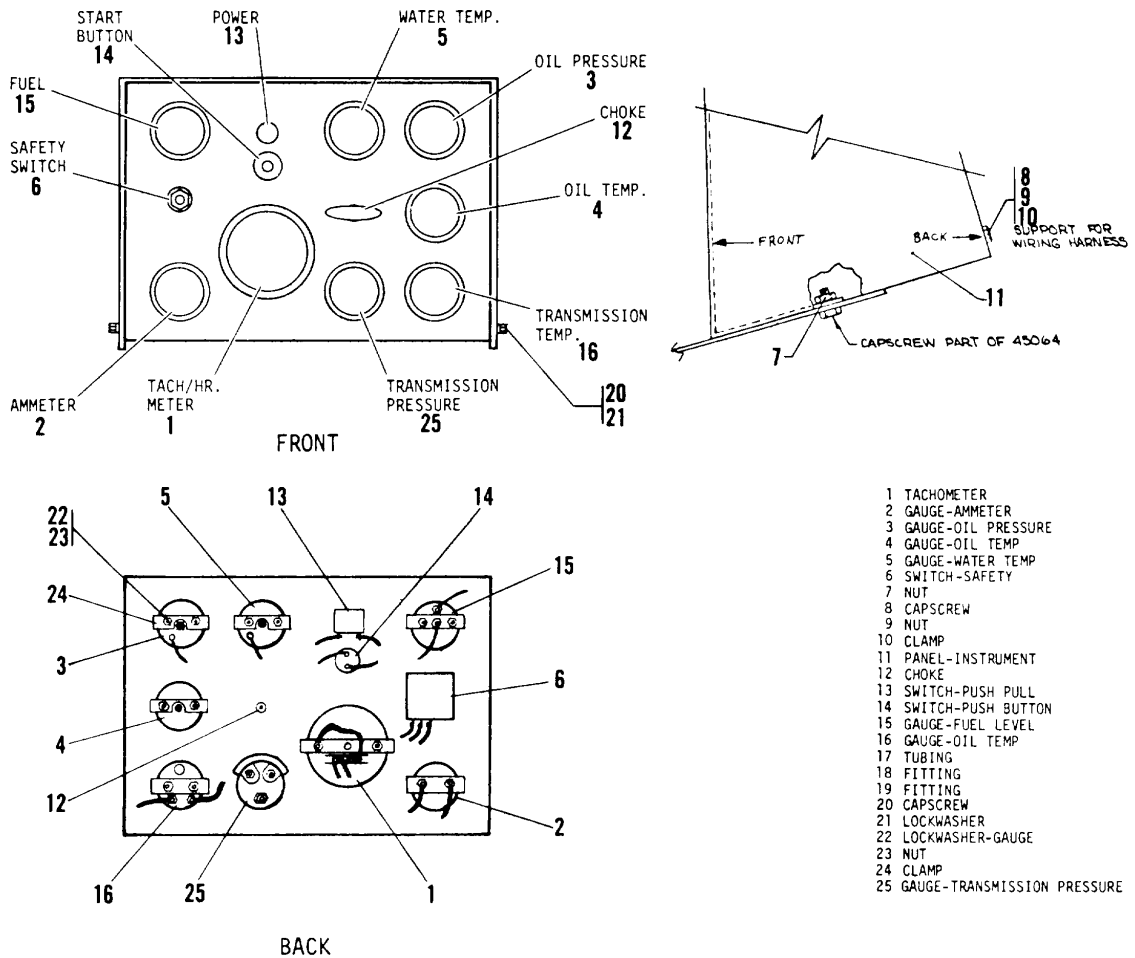

Figure 4-13. Instrument panel.
- (1) Remove nut, capscrew and clamp (8,9,10, fig. 4-13) on back of instrument panel assembly.
- (2) Remove two capscrews (20) and lock washers (21)to remove the cover from the instrument panel.
- (3) Disconnect the engine oil pressure line from the back of the gauge (3) and disconnect the Transmission oil pressure line from the back of the gauge (25).Tag the electrical wires for identification purposes, on the back of the gauges. Remove nuts and washers to remove electrical leads. Remove nuts and washers (22, 23) from the CLAMPS (24)thereby enabling each of the gauges (1,2,3,4,5,15, 16,25) to be removed from the panel.
- (4) Tag electrical wires and disconnect same from on-off switch (13) starter button (14) and safety switch (6). Unscrew the knob and nut on front of panel to remove the on-off switch (13). Pull the spring loaded starter button(14)straight out to remove it from panel. Unscrew nut and remove plate and safety switch (6) from instrument panel.